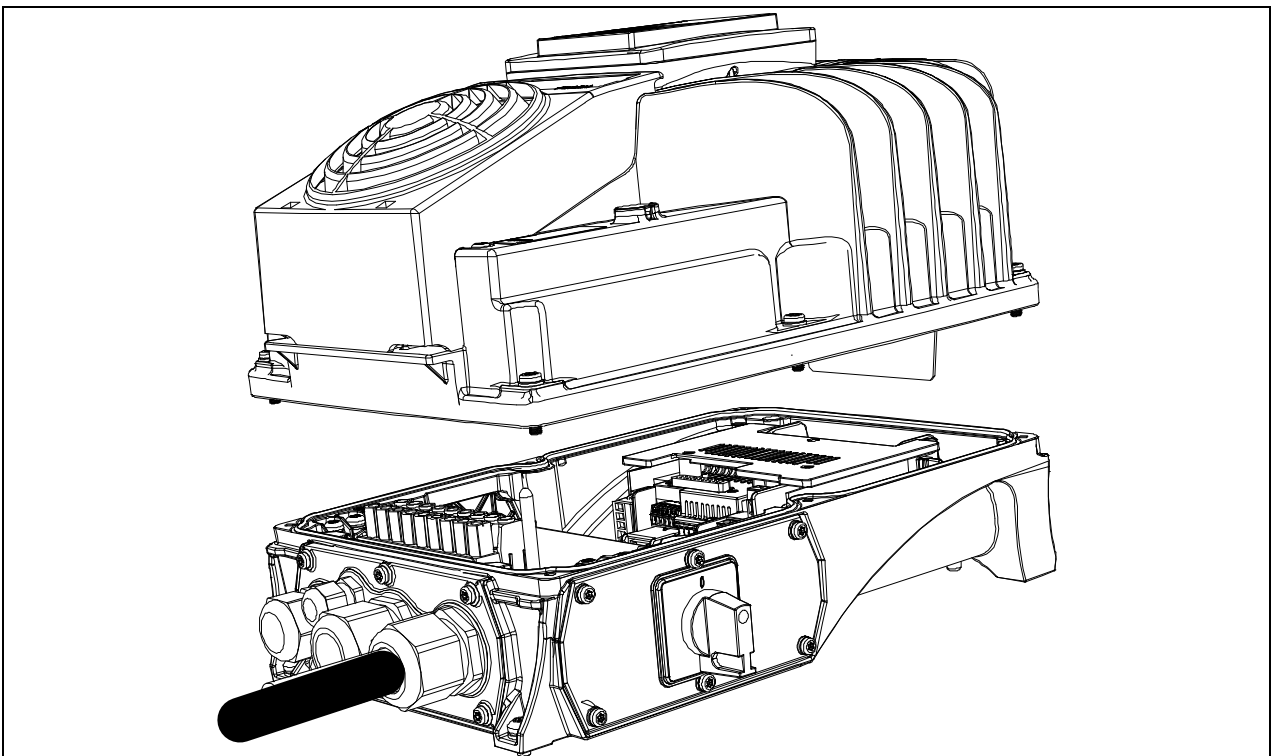

Figure 41. Mount the powerhead on the terminal box.
- Mount the powerhead on the terminal box with its screws: the installation process has been completed. See Figure 41.